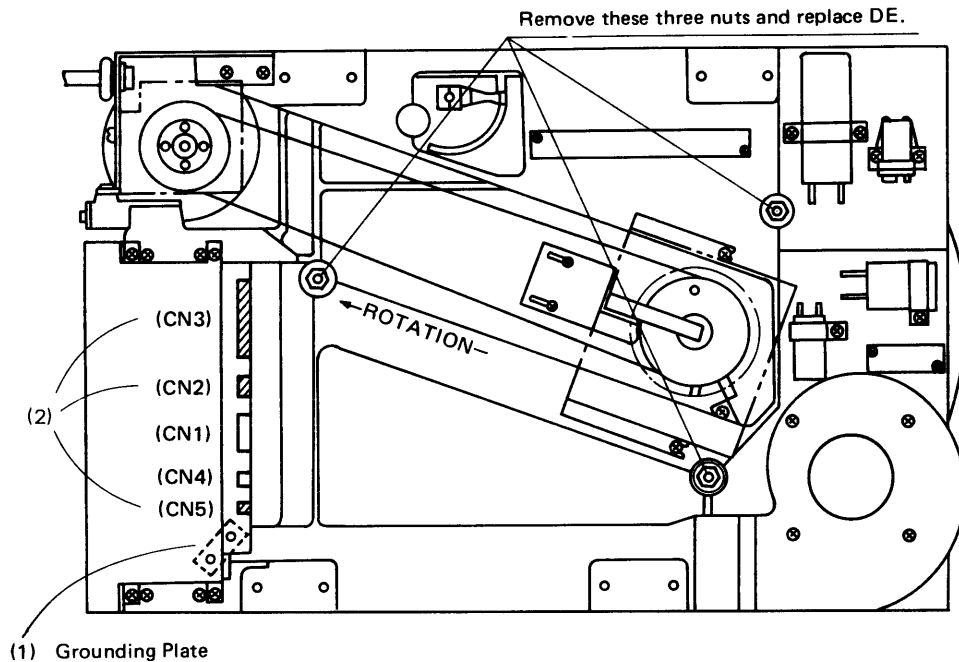

Figure 6-5-1 Disk Enclosure Replacement
- (1) Remove grounding plate between gate shelf and sub-shelf of unit. (Top side)
- (2) Disconnect wiring (CN2, CN3 and CN5) from the gate shelf.
- (3) Lock actuator. (Refer to 3.4.4)
- (4) Remove belt in accordance with 6.5.4.
- (5) Remove three nuts shown in Fig. 6-5-1 from rear of sub-frame.
- (6) Remove DE by lifting it slowly, being careful not to damage any of the wires.